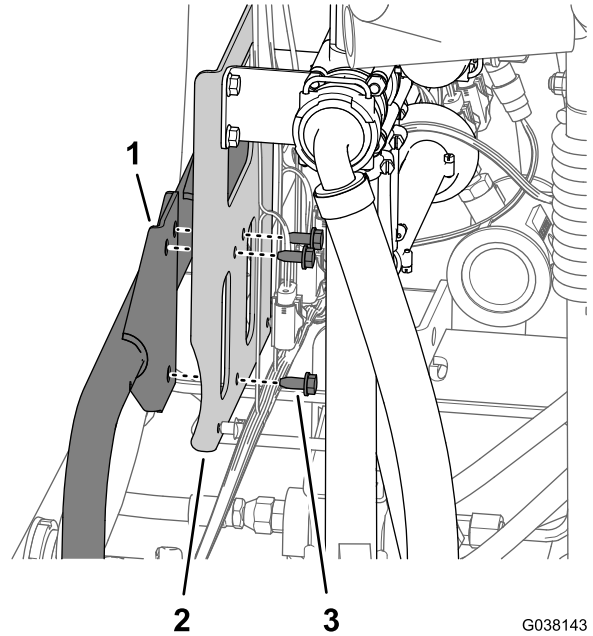

Figure 26
- While supporting the bracket for the agitation, rate, and master-spray valves, remove the 3 flange-head bolts (5/16 x 3/4 inch) that secure valve bracket to the mount (Figure 26).